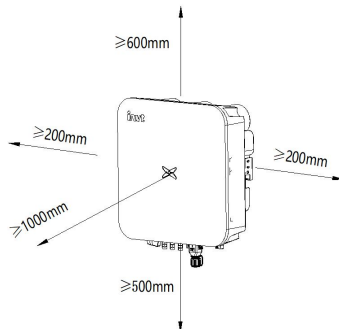

Fig 4.4 Installation spacing of inverter
(3) When installing multiple inverters, a certain distance shall be reserved between the inverters, as shown in Figure 4.4. At the same time, sufficient distance shall be reserved between the upper and lower parts of the inverter to ensure good heat dissipation .